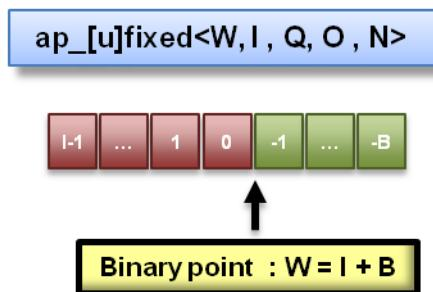

Figure 2-3: Arbitrary Precision Fixed Point Types
C++ functions can take advantage of the arbitrary precision fixed point types included with Vivado HLS. Figure 2-3 summarizes the basic features of these fixed point types:
- The number of places above the decimal point I , also defines the number of decimal places in the word, $w-I$ (represented by B in Figure 2-3).
- The type of rounding or quantization (Q) can be selected.